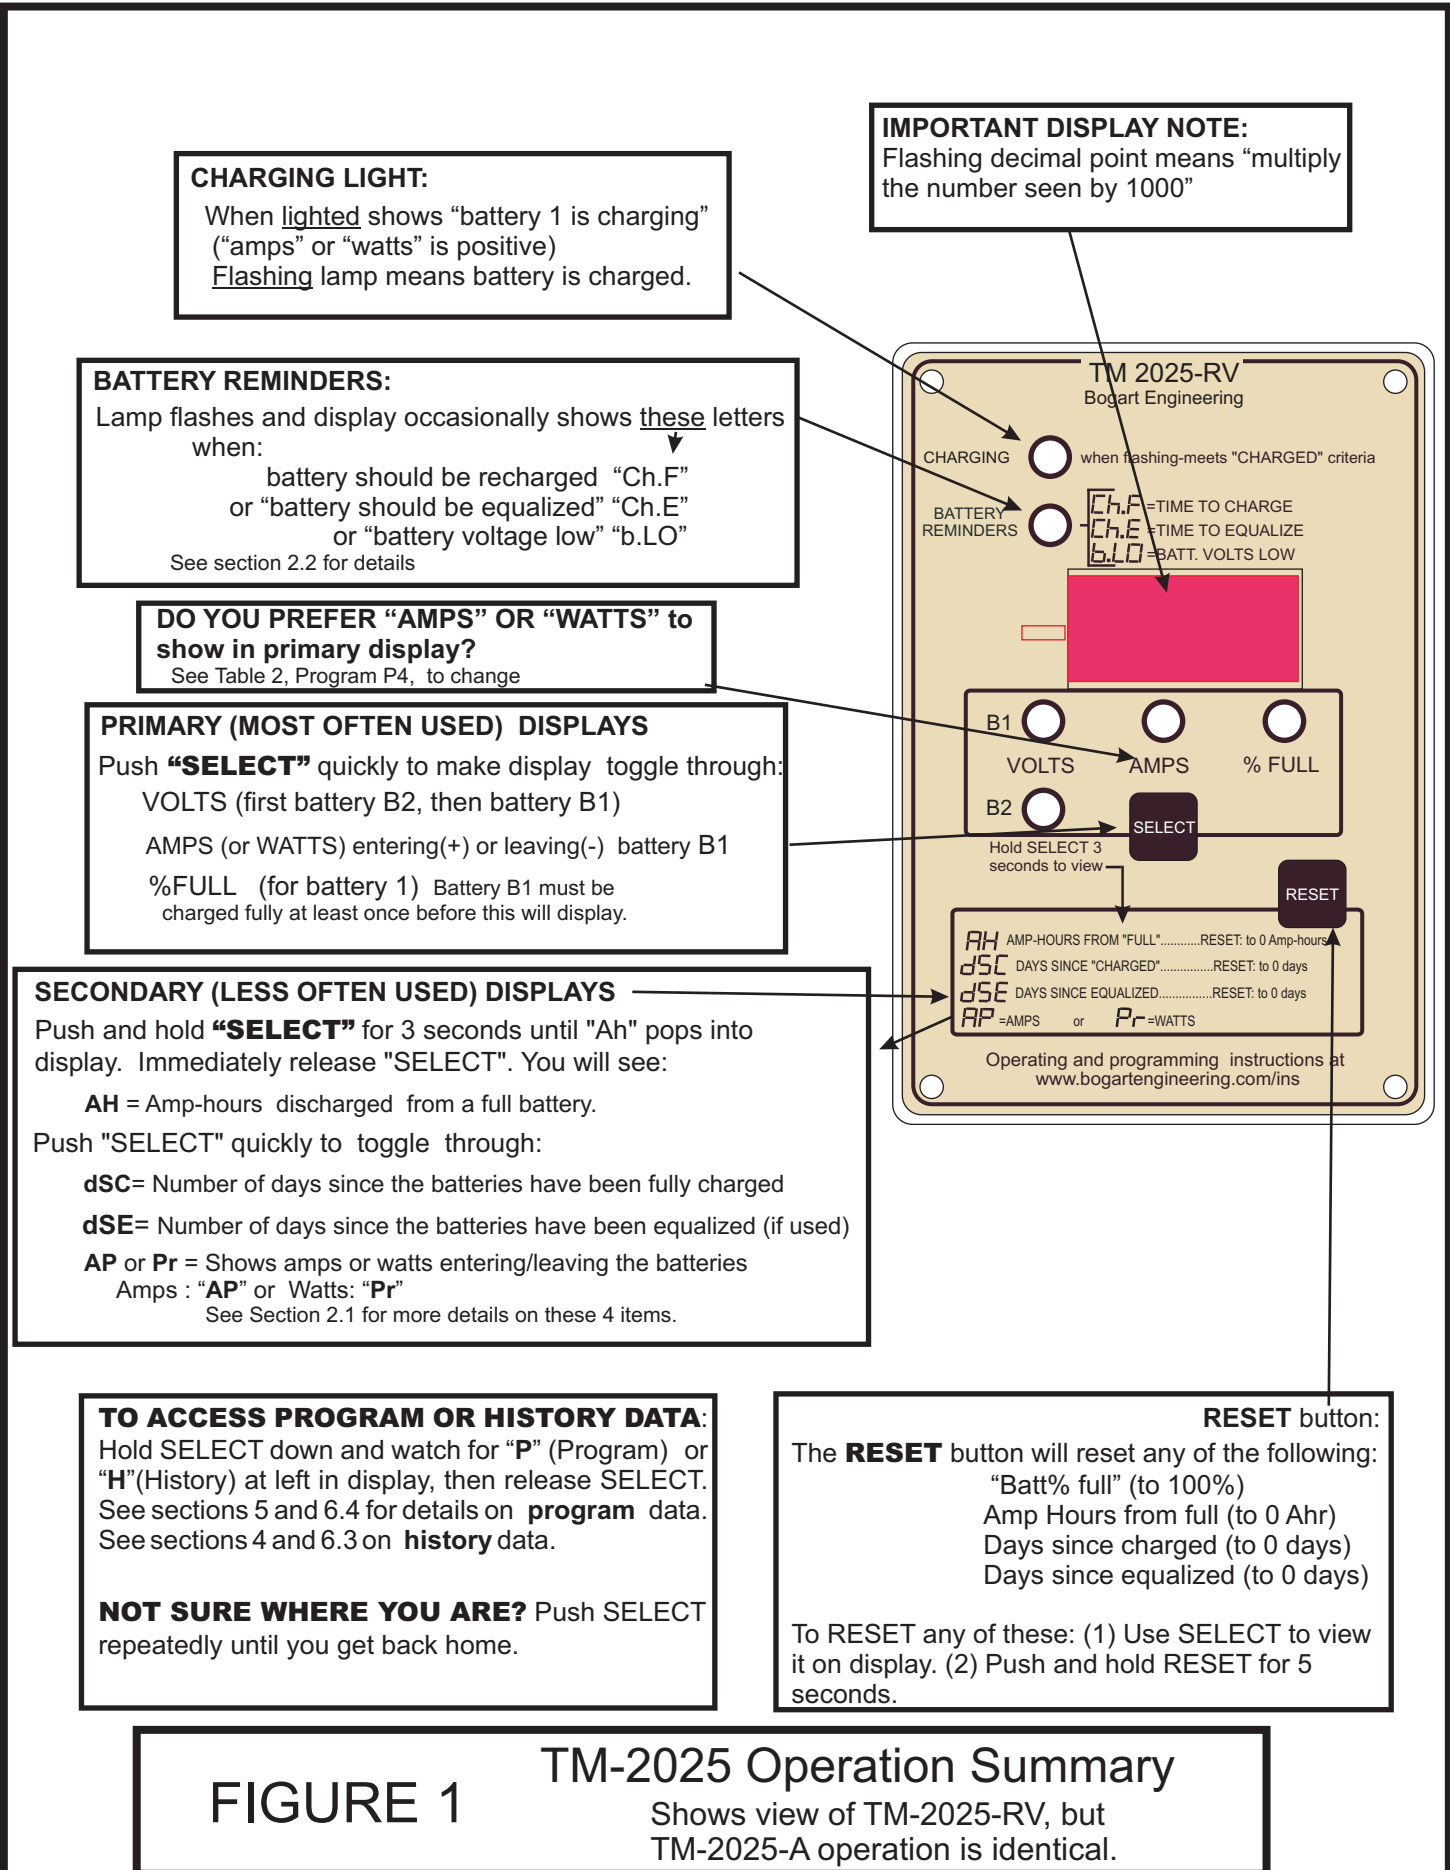

FIGURE 1
2. Basic instructions for Operating Level L1: Refer to figure 1 which covers basic operation. It also has references for further information. **Note that “% full” will display only 3 dashes until system is fully charged for the first time.**
dSE Days since the battery was equalized. “Equalization” refers to occasionally overcharging a battery to help it maintain its capacity. It is usually recommended only for liquid electrolyte lead acid batteries, not AGM or Gel types. This display is intended to remind you when to equalize your batteries if this is not done automatically by your charging system. It is essentially just a manual timer, that reads in DAYS, so that you can see how long it has been since your batteries were equalized. Each day when not reset it will advance by 1.00 day. Then it must be MANUALLY RESET by you when you take action to equalize the batteries. For how to reset this, refer to Figure 1, in reference to the RESET button.
2.2.2. “Ch.E” (Charge Equalize) Reminder to equalize batteries occasionally, (typically monthly) if recommended by the battery manufacturer. Equalization refers to an occasional overcharge which is recommended by manufacturers of “liquid electrolyte” batteries (the ones with watering holes on top.) It is not ordinarily recommended for AGM or Gel type (VRLA) batteries. If you have liquid electrolyte batteries, and if you need to manually equalize, you can choose the equalization reminder interval (for example, once every 30 days) to flash “Ch.E” in the display after this interval. This feature is intended to remind you to equalize at regular intervals if equalization is not accomplished automatically by your charger or charge controller. Then, after you accomplish equalization you must manually reset the “Days since equalize” number as described in figure 1, by the RESET button. More information about equalization may be found in section 7: **Important information on how to keep from killing your batteries.** The number of days is programmed by Program P6. (See Table 2).